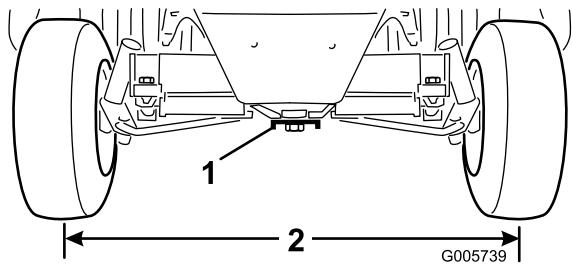

Figure 53
2. Loosen the jam nuts on both tie rods. Adjust both tie rods until center-to-center distance at front and back of rear wheels is the same (Figure 53).